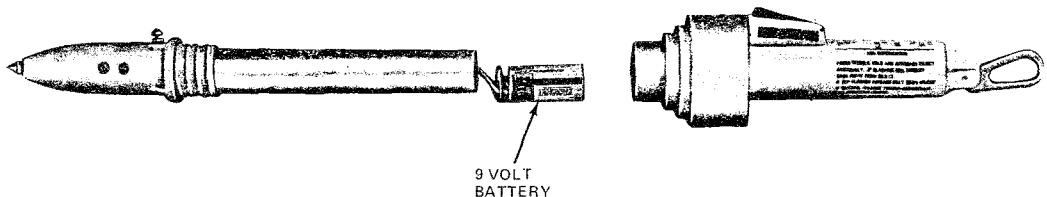

Fig. 17—Battery Location
11.05 When replacing batteries (Fig. 17), always use a 9V alkaline such as Eveready* 522. Batteries of other manufacture may be physically larger and could damage the test set if used. As the battery becomes weak the green LED will become dim or will not light. When this occurs, the battery should be replaced. To prevent damage to internal components, exercise care when replacing the battery.